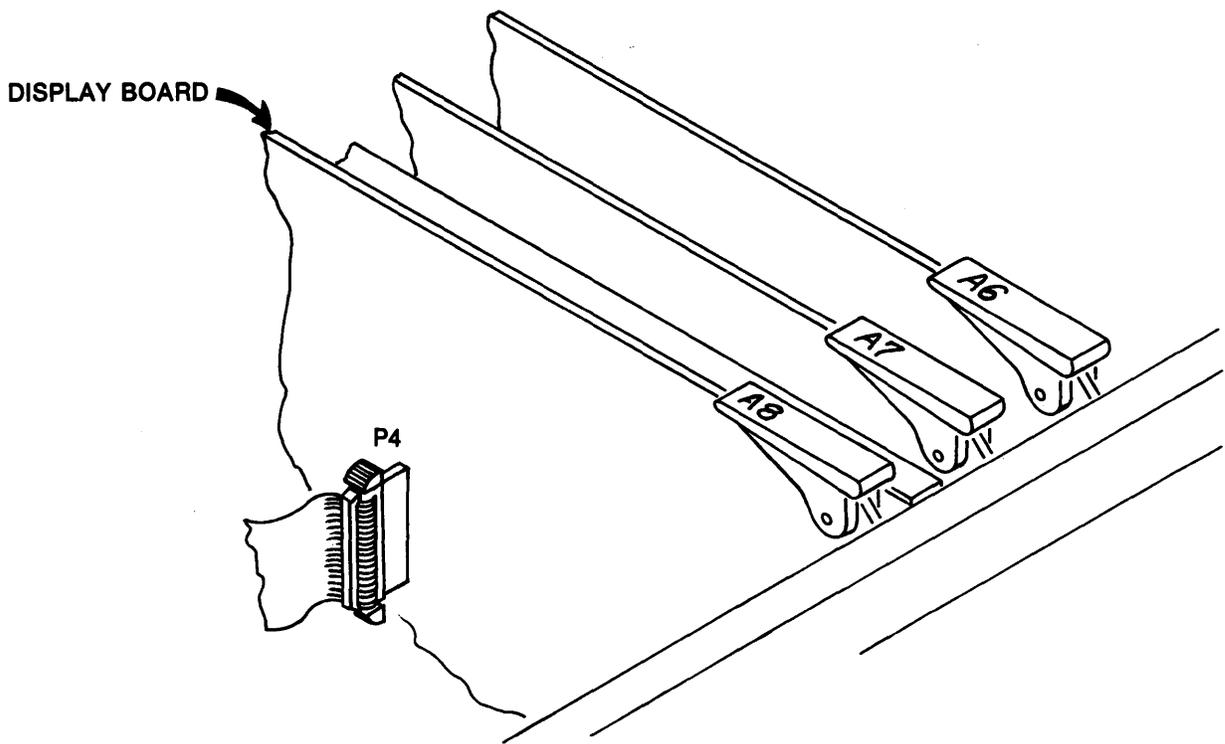

Figure 6-5. Disk Drive Ribbon Cable Connection
3. Referring to Figure 6-5, connect the single ribbon connector to the Data Display Board connector P4, located near the center of the unit. It will be necessary to remove the card cage retainer bar and raise the Data Display Board approximately 2 inches in the card cage to gain access to the P4 connector. Pin 1 is at the top of connector P4.